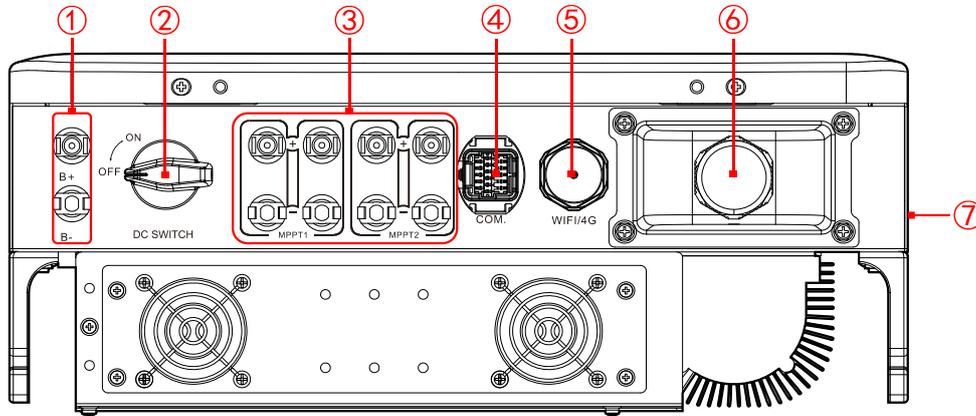

Figure2-5 Bottom layout
The external terminals are all located at the bottom of the inverter, including battery input, PV input, AC output, DC switch and communication interface, etc. as shown in Figure2-5.
The DC switch (as shown in the ② of Figure2-5) connects inverter with the PV string.